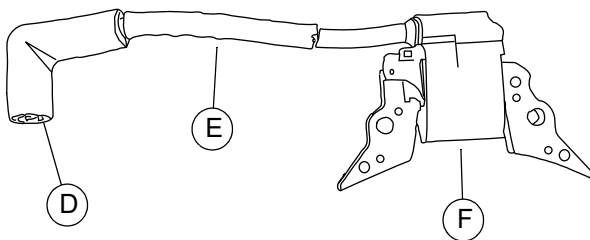

Figure 4-2. Ignition Coil Assembly
See Figure 4-2. Ignition coil assembly consists of spark plug boot (D), spark plug high tension lead (E), and ignition coil (F).